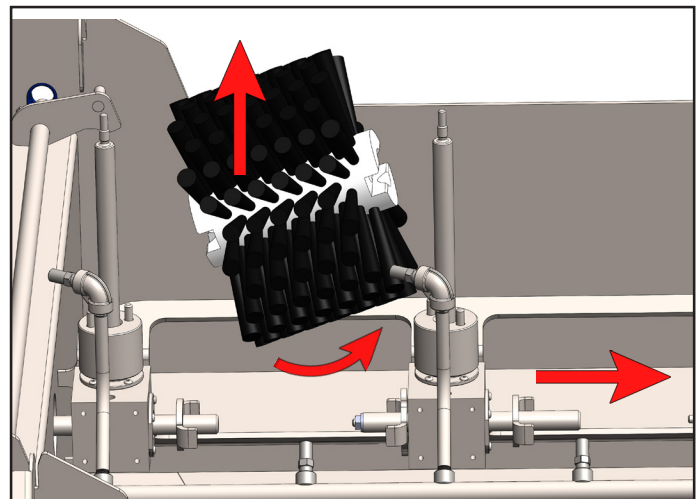

Fig. 9.3: Removing soles brushes (2 of 2)
5. With the first sole brush removed, the second brush's drive shaft anchor can be shifted to release the final sole brush [Figure 9.3].